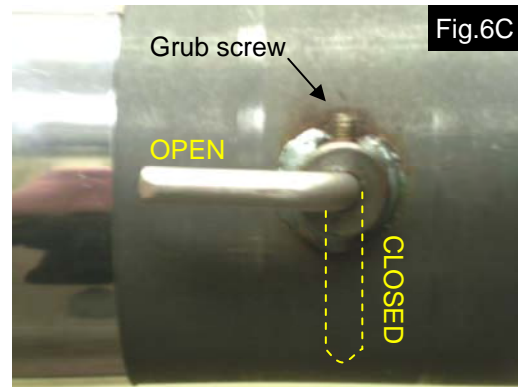

Fig.6C
- Move the handle in the required direction as shown in Fig.6C. to increase or decrease the vacuum as required.